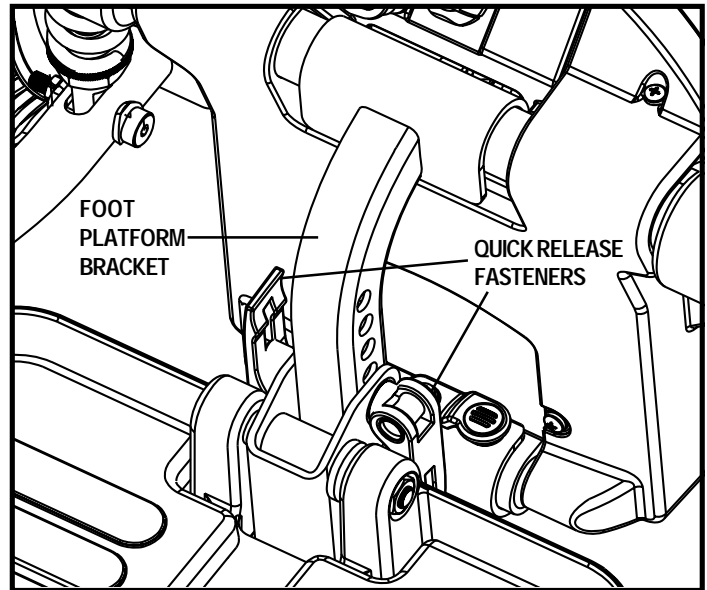

Figure 15. Foot Platform Adjustment
1. Remove the quick release fasteners from the foot platform bracket. See figure 15.